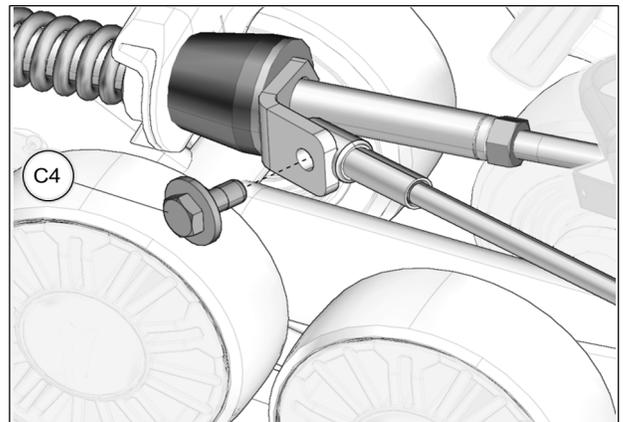

Fig. 32
20. Reverse steering wheel a little to be able to bolt support plate and cable together. Tighten provided bolt (C4) to 35 N•m [24 lb•ft]. See Fig. 32. Repeat steps on right side.